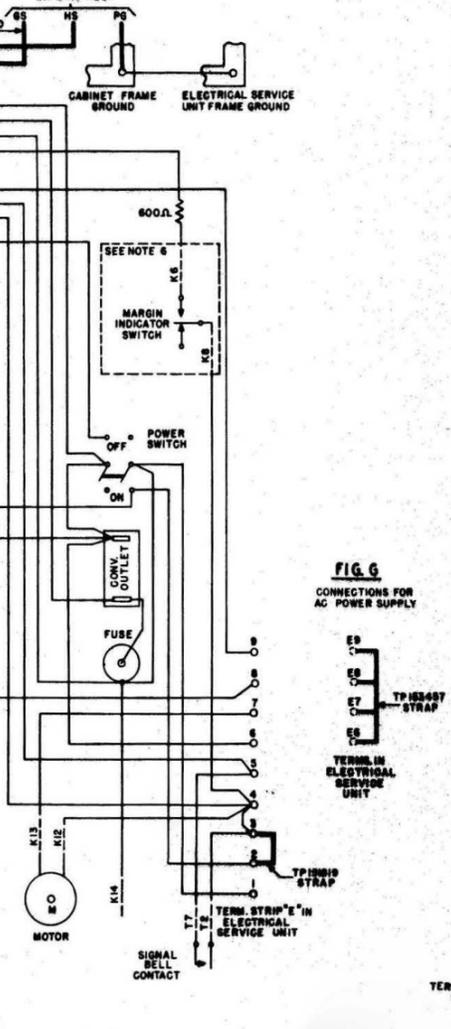

FIG. 2
- ADD TP151819 STRAP ON TERMS C8 AND Q11 FOR RECEIVE ONLY SERVICE; AND STRAP KO-KI ON 688 (NO) BASE IF NOT PRESENT.
- THE MARGIN INDICATOR SWITCH IS NOT PROVIDED ON THE 28B (NO) TTY BASE.
- LINE AND GROUND CONNECTIONS SHALL BE MADE PER FIG. 2, 3, 4, 5 OR 6 AS REQ. FIGS. 5 AND 6 CAN NOT BE USED WITH DC COMMERCIAL POWER SUPPLY.